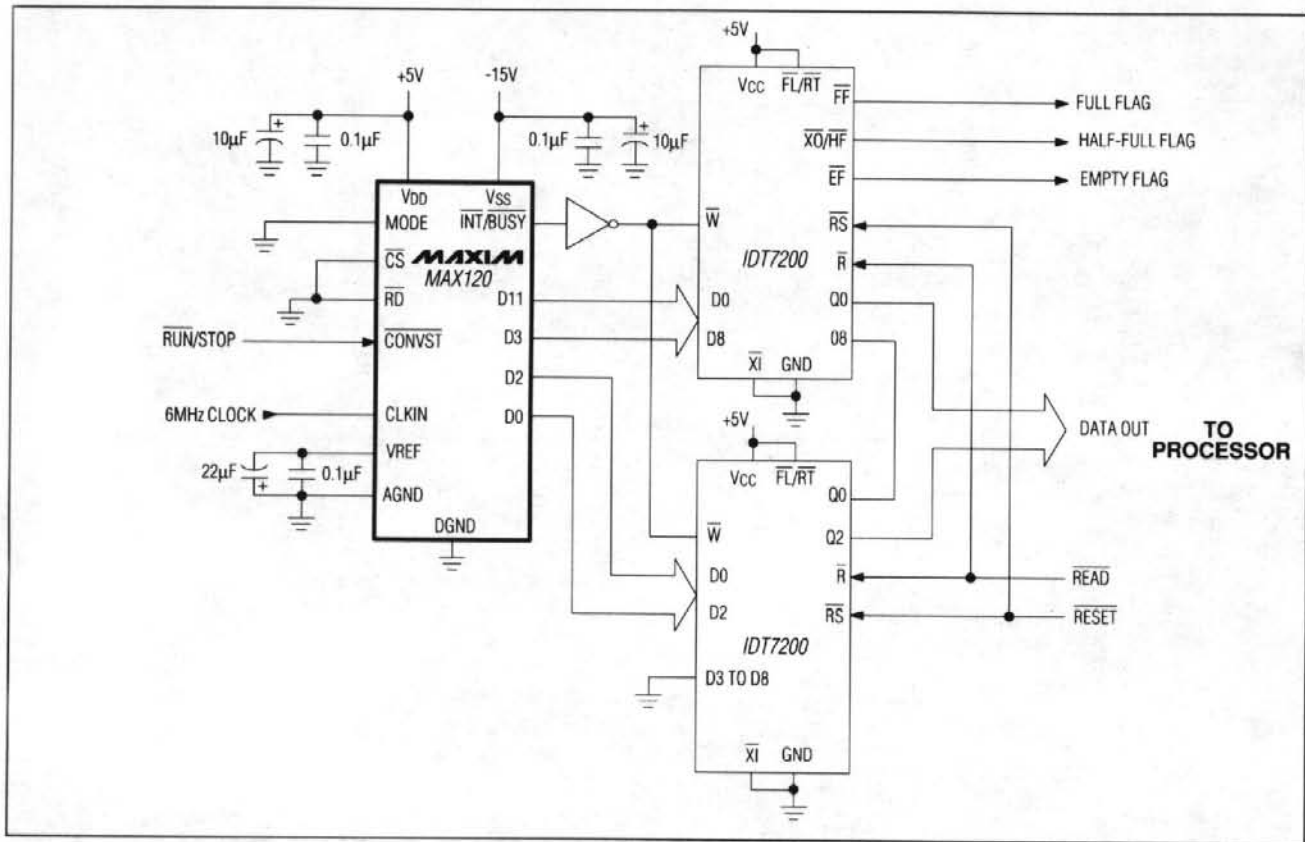

Figure 13. Using MAX120 with FIFO Memory
Using FIFO memory to buffer blocks of data from the MAX120 reduces μ P interrupt overhead time by enabling the μ P to process data while the MAX120, unassisted, writes conversion results to the FIFO. To retrieve a block of data, the μ P reads from the FIFO via a read-interrupt cycle. Read and write operations for the FIFO are completely asynchronous. Figure 13 shows the MAX120 operating in continuous-conversion mode (mode 5), writing data directly into the two IDT7200 256 x 9 FIFO buffers at the rate of 428kps. The μ P is interrupted to read the accumulated data by the FIFO's half-full (HF) flag approximately three times per millisecond. For operation at 500kps, use an 8MHz clock, and pulse CONVST at 500kHz. The full flag (FF) indicates that the FIFO is full. If this flag is ignored, data may be lost. If necessary, conversions can be inhibited by pulling CS, RD, or CONVST high. The FIFO's read cycle times are as fast as 15ns, satisfying most system speed requirements. The RESET input resets all data in the FIFO to zero.